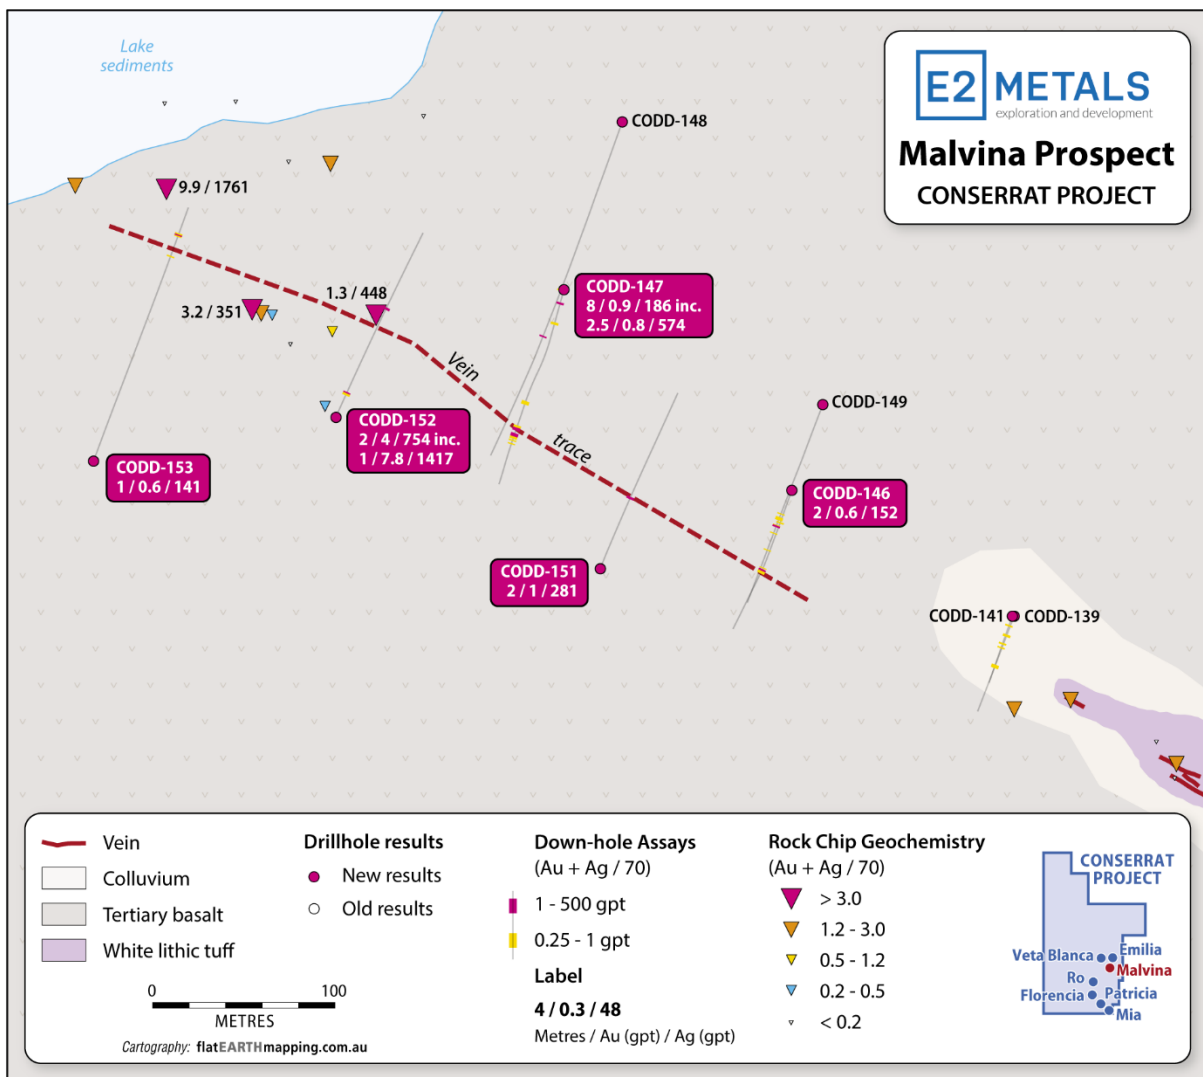

Figure 2: Malvina drill holes and results
Initial scout drilling was completed on five (5) wide spaced sections spaced 100 to 150m apart (see Figure 2). A total of 7 holes for 1427m have been completed to date.